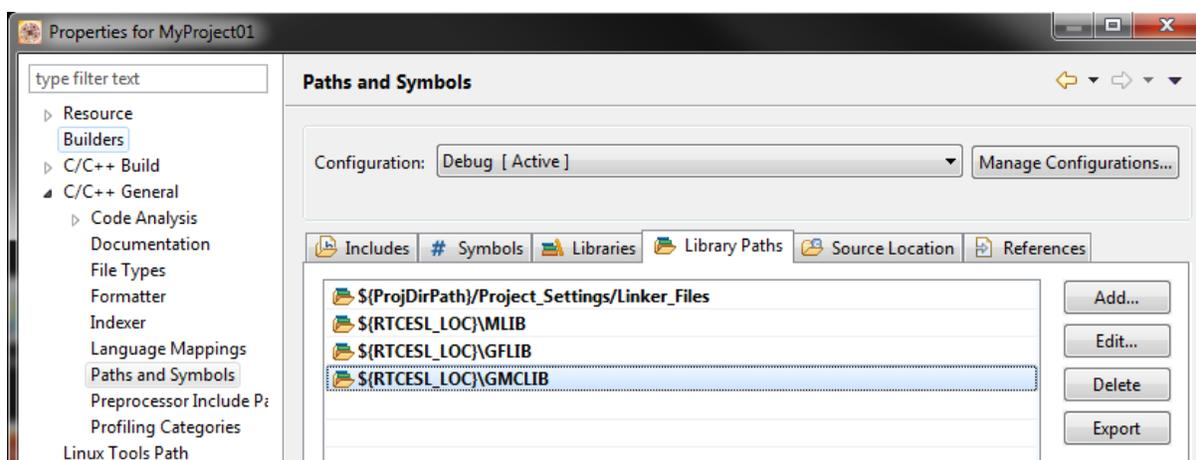

Figure 1-22. Library paths
3. In the right-hand dialog, select the Library Paths tab. See Figure 1-22.
10. Click OK, and the paths will be visible in the list. See Figure 1-22.